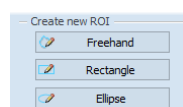

Figure 374 – Quantitative analysis drawing tools in the QA tool tab
- Select an appropriate tool for the ROI definition in the **Create new ROI** section of the **QA** tool (see Figure 374).